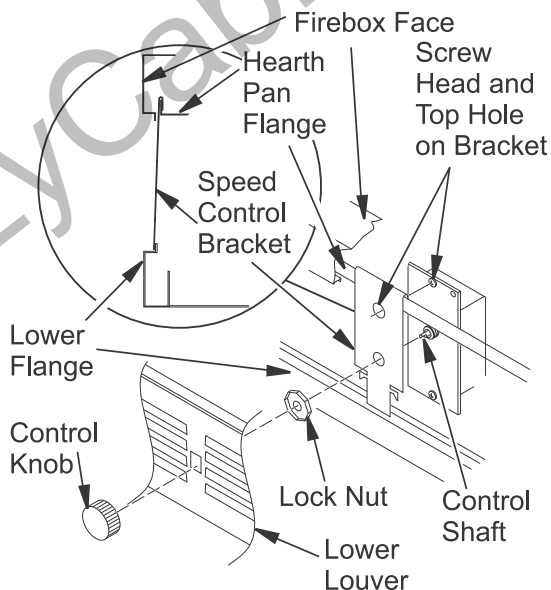

Figure 14 - Attaching Speed Control to Firebox with Panel Louvers
5. Position speed control bracket over flange on hearth pan by sliding it up between firebox face and hearth pan flange, then down until seated onto lower flange of louver opening (see Figure 14, page 15).
- bracket (see Figure 14). Secure speed control to bracket with lock nut by pushing and turning lock nut with pliers clockwise until it is tight against bracket.
8. Place louver panel, louvers pointing up, back into framed opening. Align control shaft with rectangular opening by sliding control bracket along flange (see Figure 14).
10. Place control knob, provided, onto control shaft (see Figure 14).